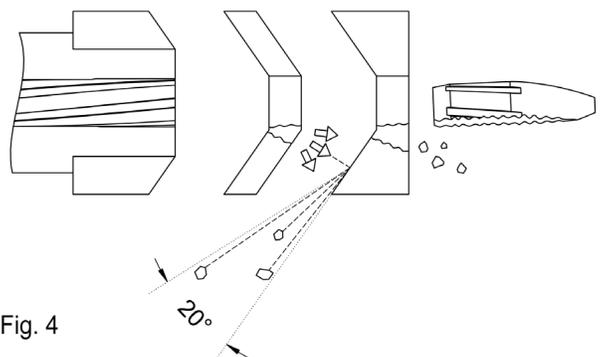
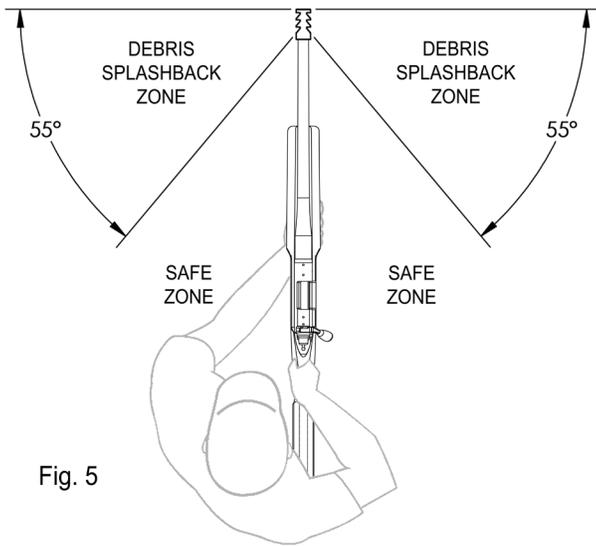

Fig. 4
Fig. 5
**WARNING!** In the event of a Bullet-to-Baffle collision or "Baffle Strike", high velocity debris may be deflected from the baffle impingement surface at an angle up to 20-degrees greater than the baffle angle (Fig. 4). This debris may include bullet and/or baffle fragmentation that is capable of causing severe bodily injury. This device has a maximum baffle angle of 35-degrees thereby creating a 55-degree Debris Backblast Zone on each side of the shooter (Fig. 5). It is important to precisely follow all installation and maintenance instructions to minimize the risk of a baffle strike. However, it is the responsibility of the shooter to anticipate the possibility of a baffle strike and MAKE SURE ALL BYSTANDERS ARE CLEAR OF THE DEBRIS BACKBLAST ZONE BEFORE DISCHARGING THE FIREARM.
**WARNING!** This device produces high pressure, high temperature exhaust jets in the Debris Backblast Zone (Fig. 5). All body parts, weapon forearms, and/or weapon attachments must be kept within the Safe Zone (Fig. 5) and at a minimum safe distance of 2 inches behind the back of the device. Any object, including body parts, located within close proximity to the exhaust jets, may be damaged, or destroyed. Any hard object located within the Debris Backblast Zone may further deflect dangerous debris causing injury to the shooter and/or bystanders.